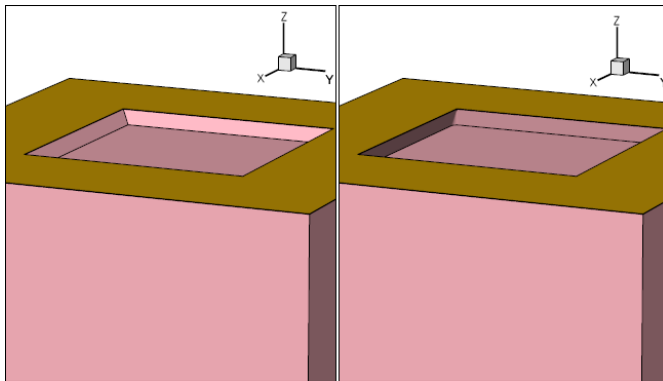

Figure 115 Trapezoidal 3D etching: (left) angle=45 thickness=0.3 and (right) angle = 110, thickness=0.44
- A thickness (or rate and time) and an angle (optional) are specified. If angle is not specified, it is considered to be  $90^\circ$  (vertical). In contrast with case 2, angle allows any value between  $0^\circ$  and  $180^\circ$ . Figure 115 contains examples for both cases.